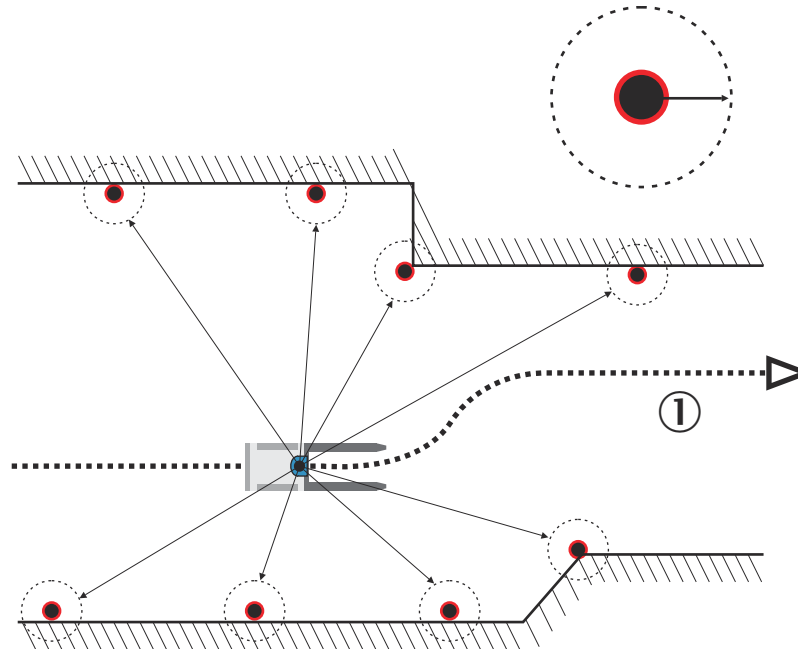

Figure 6: Identification of reflectors in the "continuous positioning" operational status
- An expected position for reflectors in the following measurement cycle is calculated from the speed data, thereby equalizing the measurement of the reflectors within a head rotation see figure 6, page 22.